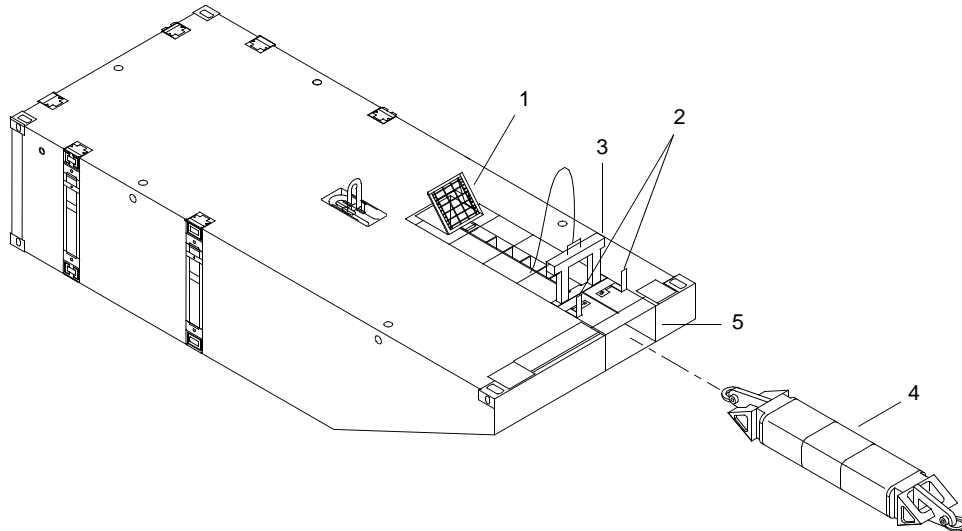

Figure 1. Flexor
3. Open flexor hatch (figure 1, item 1) on left end rake to be used for towing.
4. Rotate chute bolts (figure 1, item 2) and pull chute bolts (figure 1, item 2) to UNLOCKED position.
5. Remove guillotine (figure 1, item 3).
6. Using WT and slings, remove flexor (figure 1, item 4) from flexor well pocket (figure 1, item 5) and place on FC deck.
7. Using load restraining device, secure flexor (figure 1, item 4) to centerline of FC deck.
21. Insert guillotine (figure 1, item 3).
22. Drive guillotine (figure 1, item 3) down into flexor slot using a sledgehammer.
23. Push chute bolts (figure 1, item 2) to LOCKED position and rotate chute bolts (figure 1, item 2) to STOWED position.
24. Close flexor hatch (figure 1, item 1).